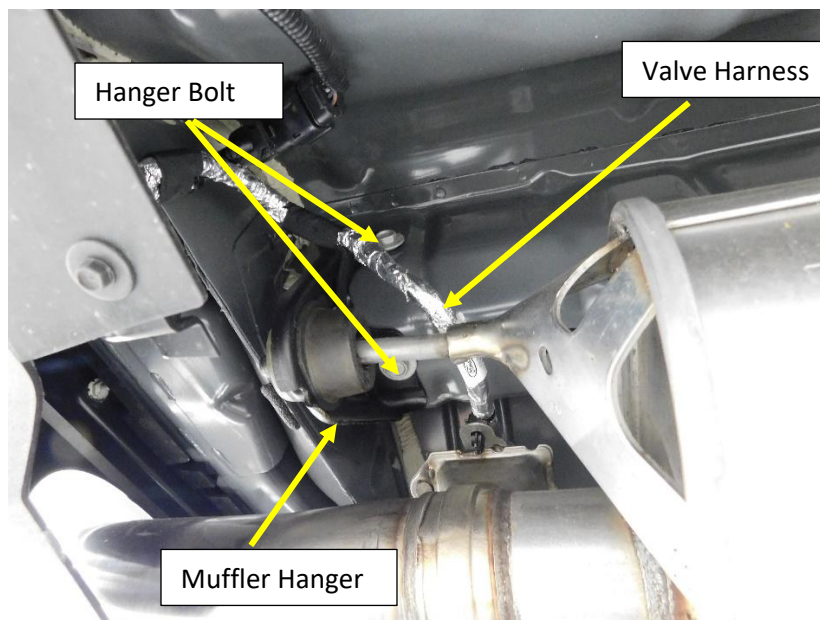

Figure.5
7. Remove the (x2) bolts from the Muffler hanger mounts directly over the mufflers. **Fig.5**